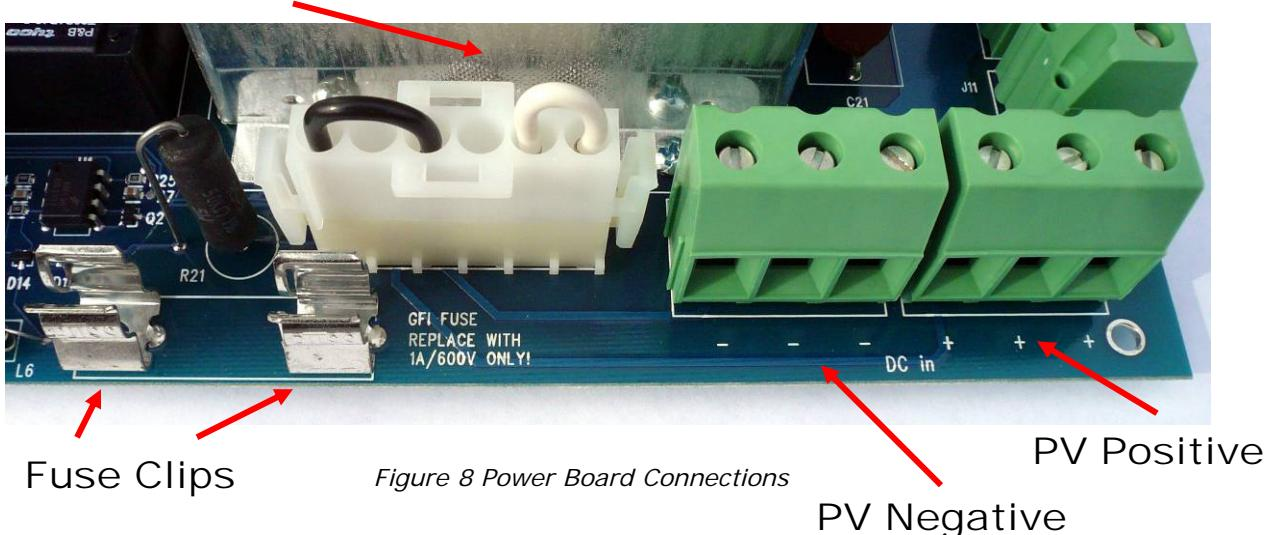

Figure 8 Power Board Connections
To wire the DC inputs from the PV array to the inverter (see Figure 8):
8. Install the grounding jumper with the white wire on the right into connector J3 on the power board (see Figure 8).
Measure the DC voltage potential between the two mounting clips (see Figure 8) for the 1 A fuse.